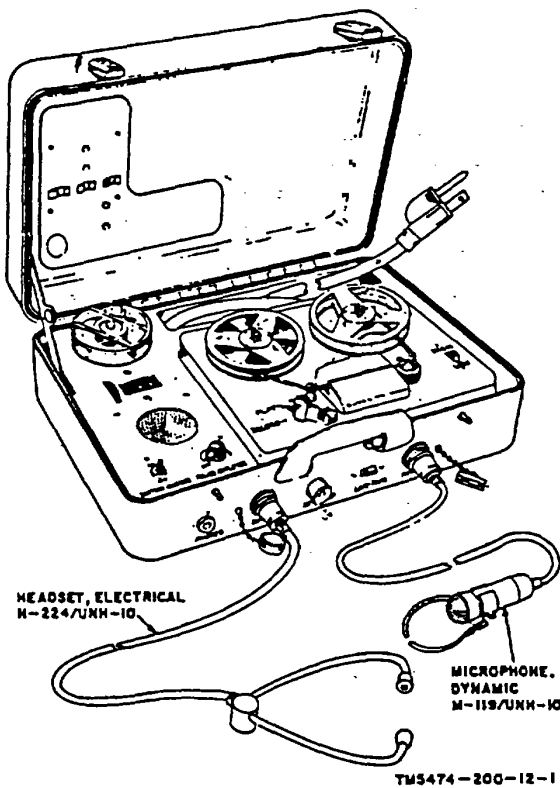

Figure 1. Recorder-Reproducer Set, Sound AN/UNH-10 less technical manuals.
a. This manual describes Recorder-Producer Set, Sound AN/MN-10 (fig. 1) and covers its installation, operation, and operator's and organizational maintenance. It includes operation under usual and unusual conditions, cleaning, instructions for performing preventive and periodic maintenance services and repair functions to be accomplished by the organizational repairman.
e. This equipment is designed for operation in all types of Army vehicles, tanks, ships, and aircraft. The equipment weighs 21 pound. Figure 1 shows the equipment ready for use.
7. Description of Recorder-Reproducer Set, Sound A/UNH-10 (fig. 1)